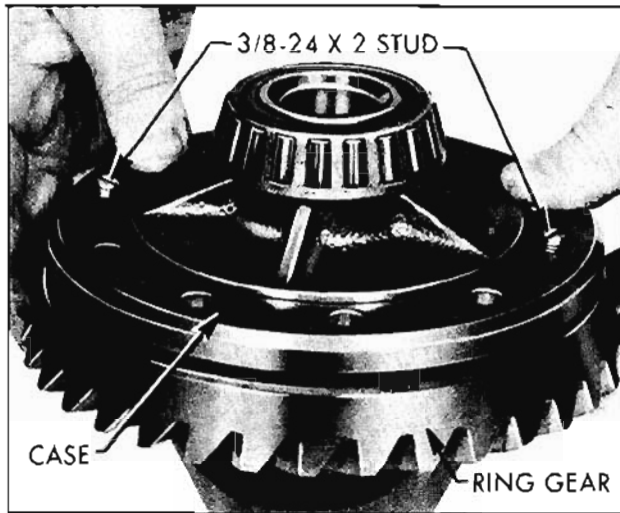

Fig. 10-123 Installing Ring Gear
5. After making certain that mating surfaces of case and rear gear are clean and free of burrs, thread two 3/8" x 2" studs into opposite sides of ring gear, then install ring gear on case. (Fig. 10-123) Install